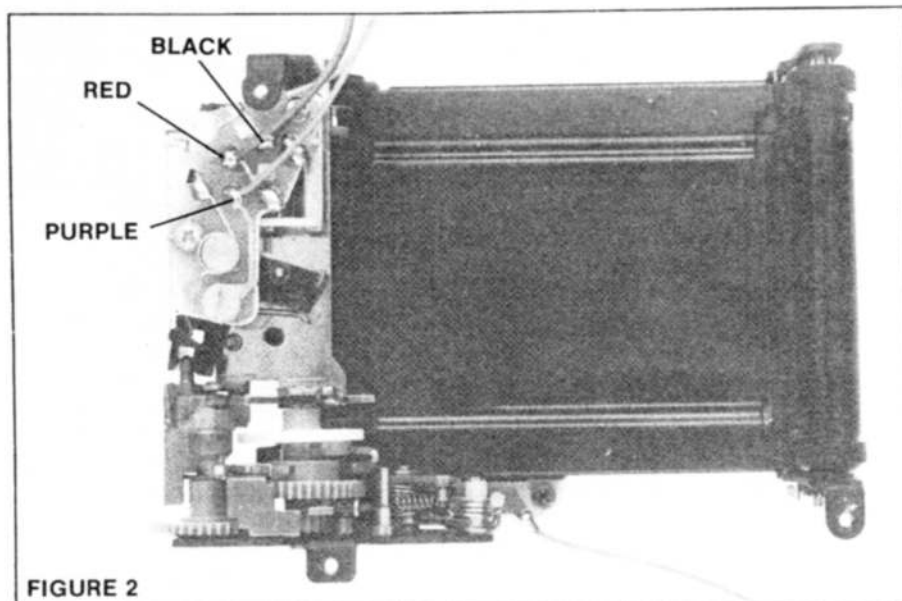

FIGURE 2
2. The shutter block has been revised, Fig. 2. Shutter blocks will interchange, but note the wiring to the shutter board.